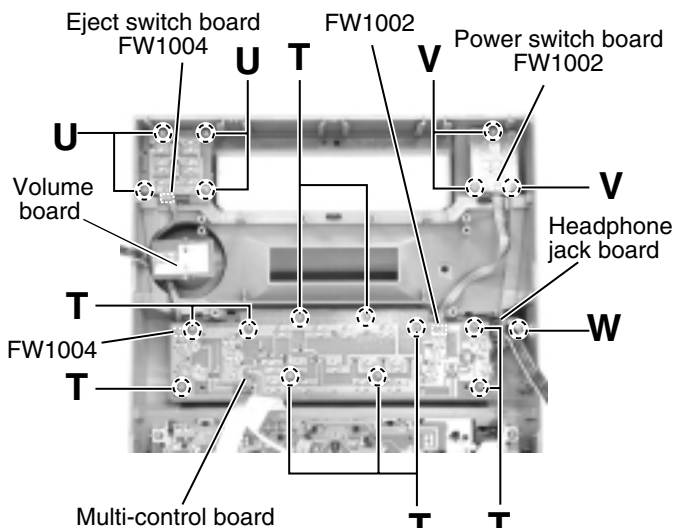

Fig.30
**■ Removing each board in the front panel assembly (See Fig.30 and 31)**
(See Fig.30)
**~Volume board~ (See Fig.30 and 31)**
**~Eject switch board ~ (See Fig.30)**
**~Power switch board~ (See Fig.30)**
**~Headphone jack board~ (See Fig.30)**